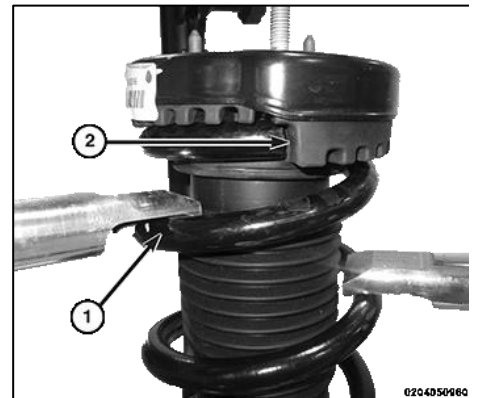

Figure 8
3. Install upper mount (2) onto coil spring (1). Match step in upper isolator to end of spring coil. <Figure 8>